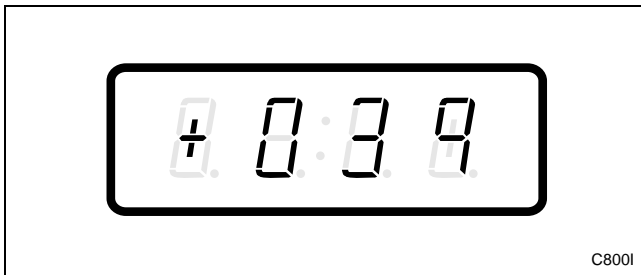

Figure 118
3. Press the DELICATES (+) or the COLD (-) keypad to scroll through the programmable options until “+039” appears in the VFD. Refer to *Figure 118*.